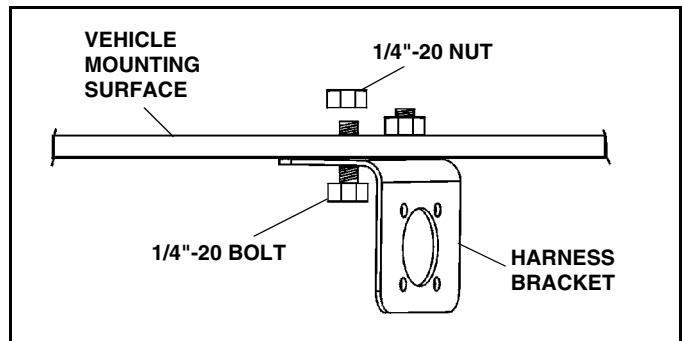

Figure 1-3
2. Install 1/4"-20 bolts up through bracket and vehicle bumper or other mounting surface. Secure with 1/4"-20 nylon locking nuts and tighten. (See Figure 1-3).